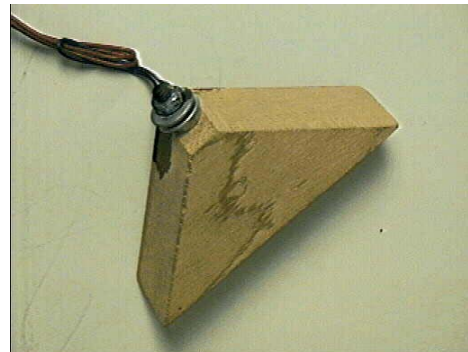

Figure 1 - Loading Wedge
- (2) The loading wedge (Figure 1) is a right triangle prism with a base of 4³/₄ inches, a height of 2¹/₈ inches measured at a right angle between the midpoint of the base and the bottom of the pulling attachment, and a width of 1¹/₂ inches. Please consult the regulation the specifications for the pulling attachment.